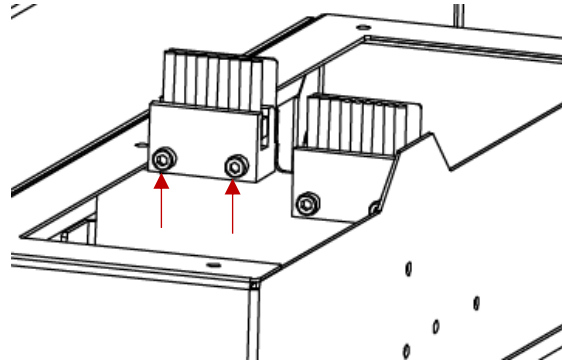

Fig. 124 Fastening screws of the T0 hotend cleaning unit
3. Loosen the two screws securing the T0 hotend cleaning unit on the left side of the cleaning station (Fig. 124). Put the loose screws aside.